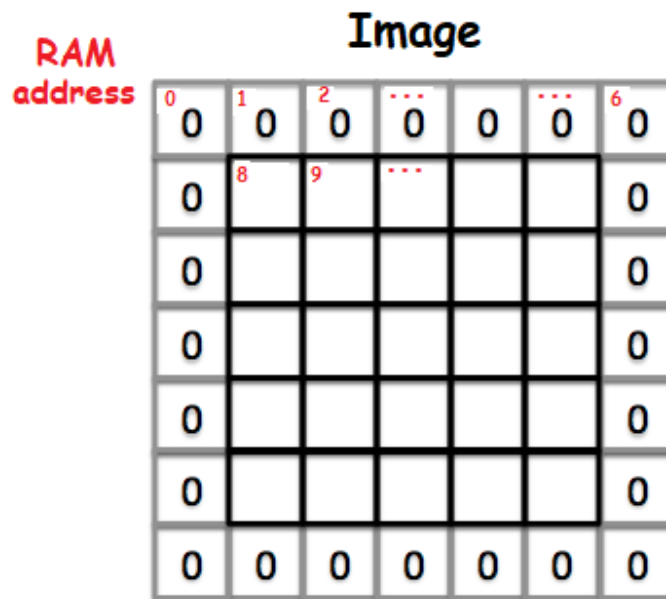

Figure 3: A zero padded image, reading order is specified with RAM addresses shown in red.
- An illustration of a zero padded  $5 \times 5$  image is shown in Figure 3, with BRAM addresses shown in red to indicate pixel order specified in “\*.coe” file. If this example figure is considered, it will be seen that the original image given for this experiment will start at address decimal 131.
- Students must come up with a method to correctly specify BRAM addresses for reading the required pixel to be used in convolution calculations (Refer to Figure 3 to understand how the image is stored in BRAM). Values  $i$  and  $j$  may be used as pixel counters. You may also define a reg to hold current pixel address that is currently being read for convolution.